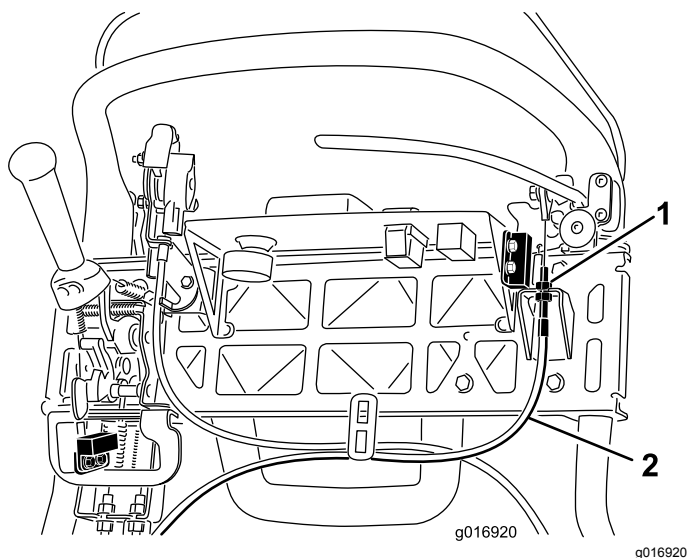

Figure 43
3. To increase the cable tension, loosen the upper cable jam nut and tighten the lower cable jam nut (Figure 43) until a force of 156 N (35 lb) applied to the brake lever handle is required to release the parking-brake latch. Do not over adjust it or the brake band may drag.